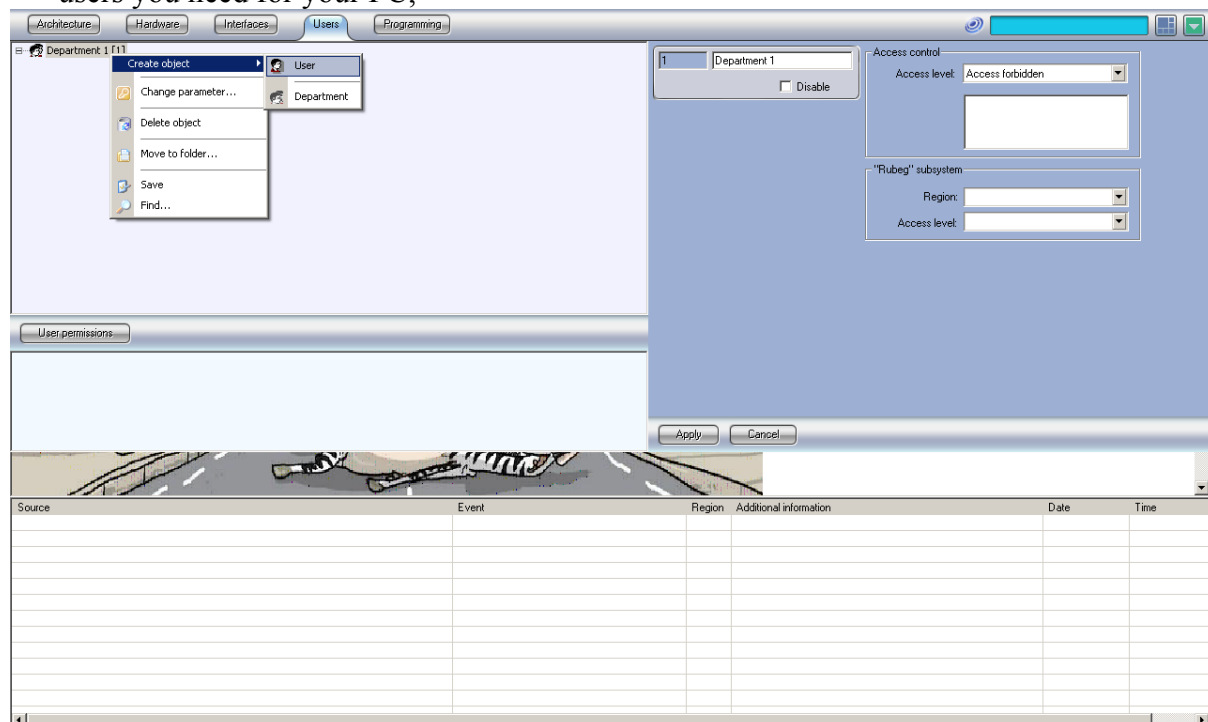

fig. 60
- Create the “Users” object - from the “Department” object (fig. 60) you are able to set a “User” objects. You need to create as many user objects in your configuration as many users you need for your PC;